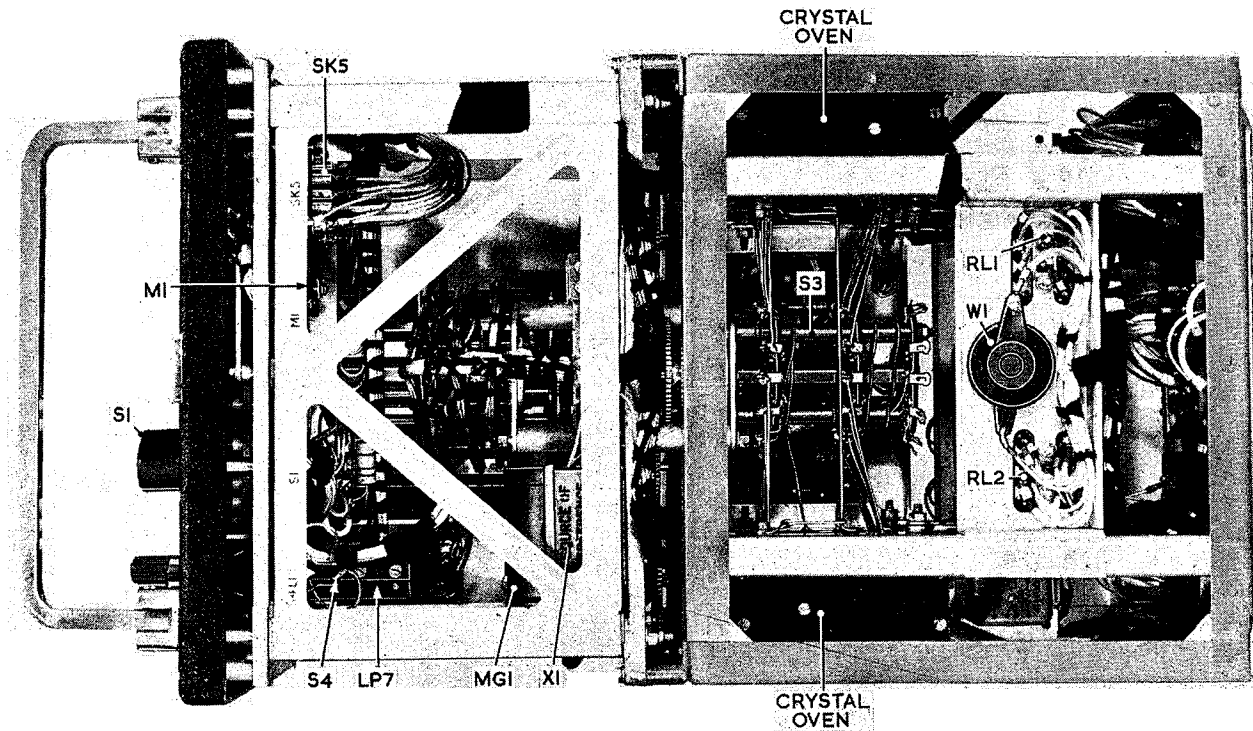

Fig. 2. Control unit chassis—underside
7. A selector motor (motor unit Type 4214) is mounted in the centre of the chassis and drives a shaft operating a 7-way multibank switch S3 (fig. 2) from which is made all the switching necessary for automatic channel selection of the transmitter and aerial tuning circuits.